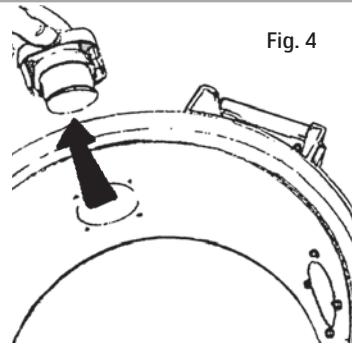

Fig. 4
2. Pull the socket out of the machine, see Fig. 4.